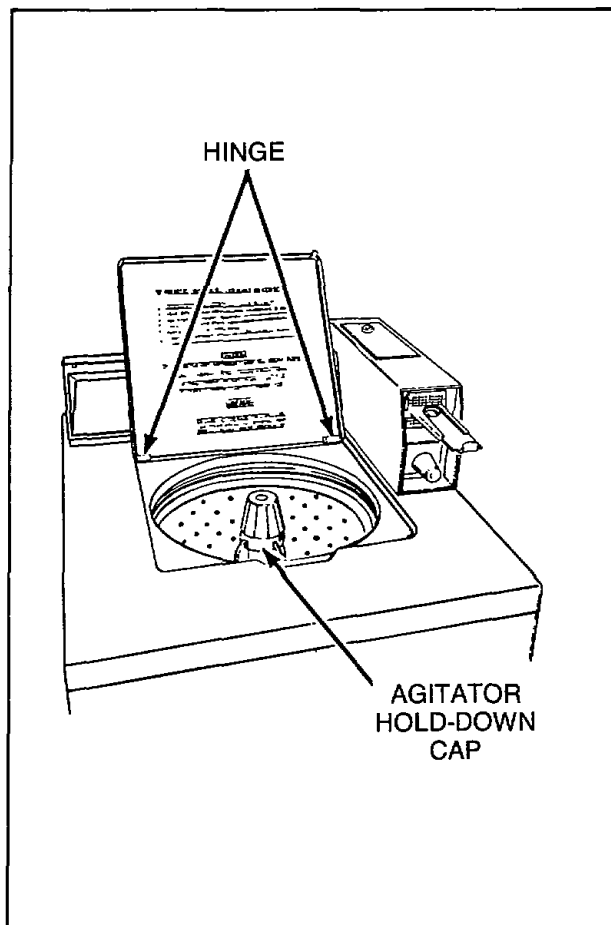

Figure 10
## 10. LOADING DOOR (Refer to Figure 10)
- Remove agitator hold-down cap, or load level indicator, and lift agitator out of washtub, Figure 10.